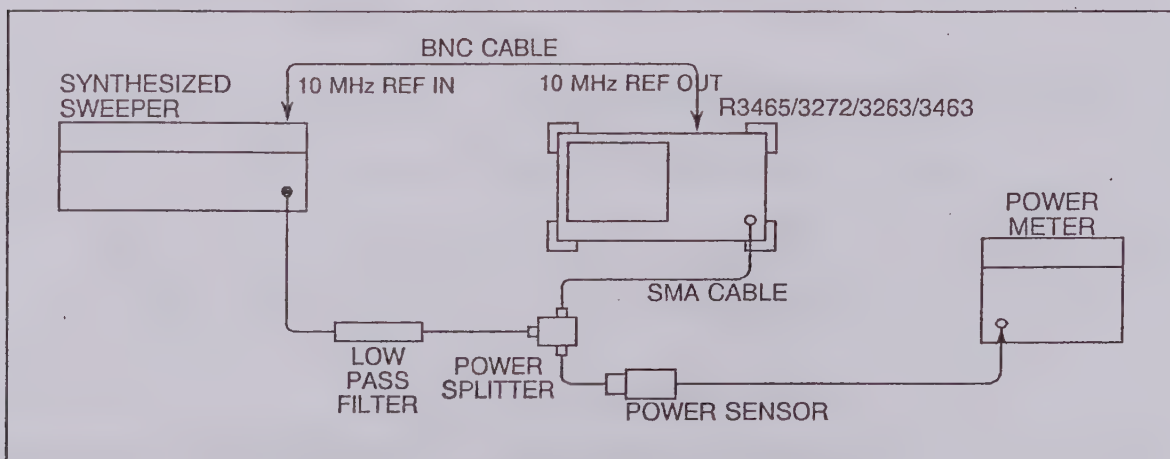

Figure 1-10 Second Harmonic Distortion Test Setup
(1) Zero and calibrate the power meter. Rotate the CAL FACTOR switch to the power sensor's 1.4 GHz calibration factor.
(2) Connect the equipment as shown in Figure 1-10.
(3) Press the INSTR PRESET key on the SG1. Set the SG1 controls as follows:
- (13) Connect the equipment as shown in Figure 1-10.
- (14) Rotate the CAL FACTOR switch to the power sensor's 1.9 GHz calibration factor.
(15) Set the SG1 **POWER LEVEL** key for a 0 dBm $\pm$ 0.1 dB reading on the power meter.
(16) On the R3465/3272, press **FREQ**, **1**, **.**, **9** and **GHz** keys.